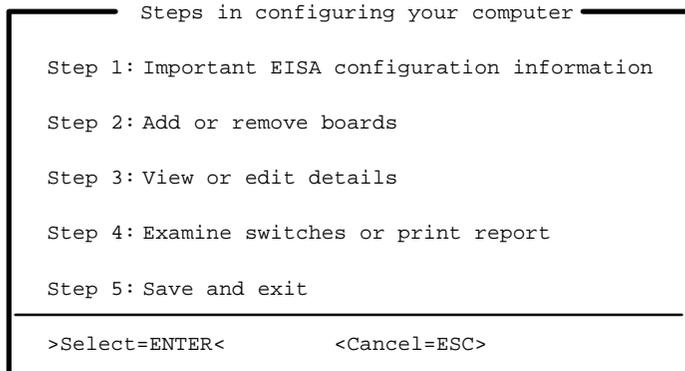

Figure 5-1 ECU Main Menu ¾ Steps in Configuring Your Computer
3. A Welcome screen appears. Press **Enter** to leave the Welcome screen and display the ECU main menu—Steps in Configuring Your Computer (see Figure 5-1).